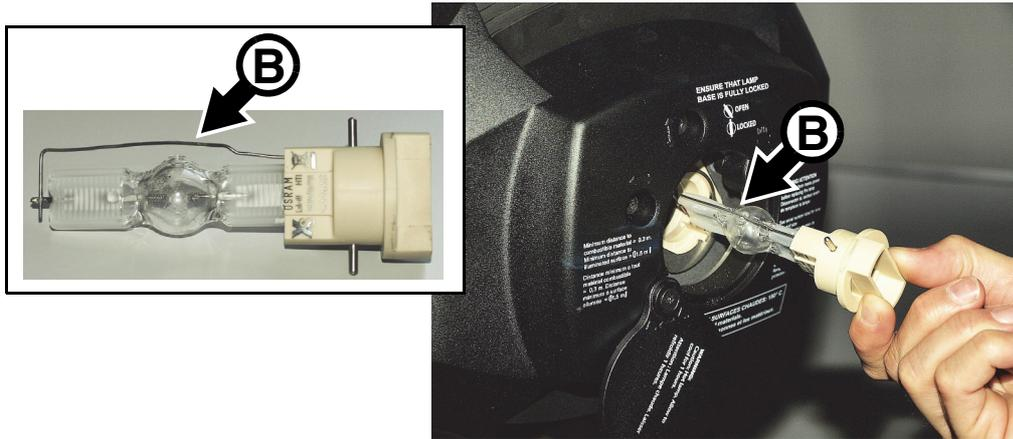
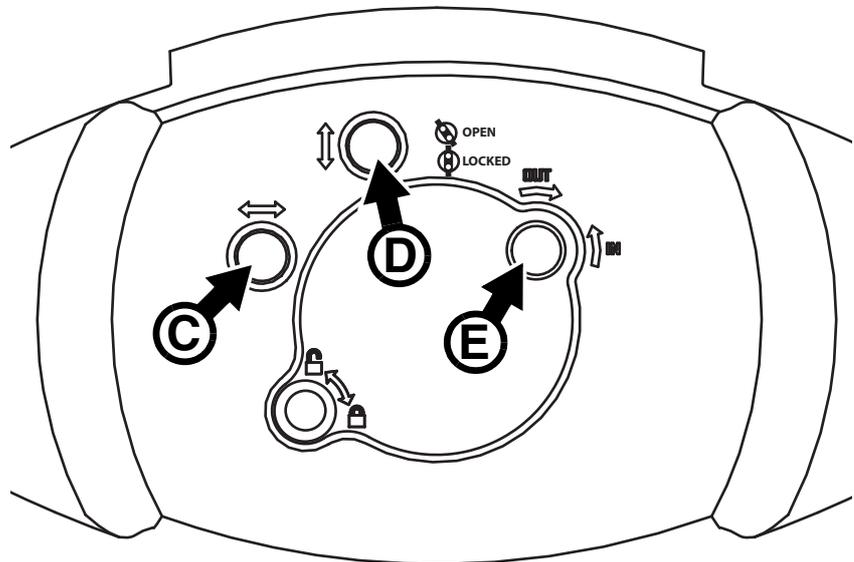

Figure 10: Lamp removal / refitting
Figure 11: Lamp adjustment
6. See Figure 10. Hold the replacement lamp so that the external wire **B** is facing up towards the top of the head (towards the vertical and horizontal alignment screws **C** and **D** in Figure 11) and line up the contacts on the lamp base with the slots in the lampholder. Slide the lamp into the fixture until the contacts are fully inserted in the slots, then twist the lamp base a full 45° clockwise until it locks into position with a noticeable click. The lamp is a stiff fit and trying to strike a lamp that is not correctly installed can cause damage that is not covered by the product warranty, so ensure that the lamp is correctly locked into position.
4. See Figure 11. Turn the three Torx 20 lamp adjustment screws **C**, **D** and **E** to minimize any hot-spot and obtain the most even beam.